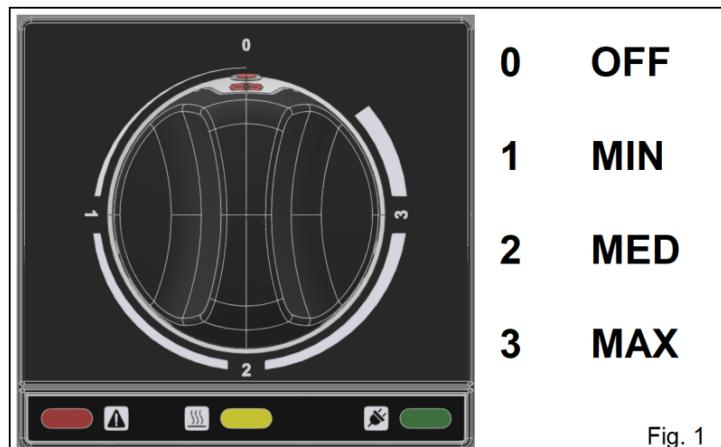

Fig. 1
- Turn the knob in fig. 1 to the desired position, the green light indicating POWER ON come on and the automatic filling of the tank start;
At the end of the cooking process, turn the knob of figure 1 to position 0, wait at least five minutes before proceeding to drain the water by placing the lever in the open position and finally cleaning.
Turn the knob in fig. 1 to the desired position and wait for the water and vinegar solution to boil.